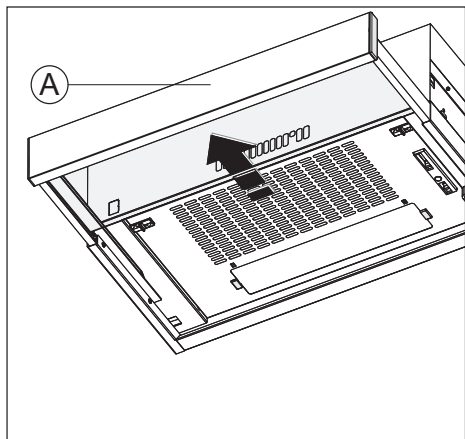

Fig.2
- To make the appliance easier to handle, pull out undercarriage **A** (fig. 2).